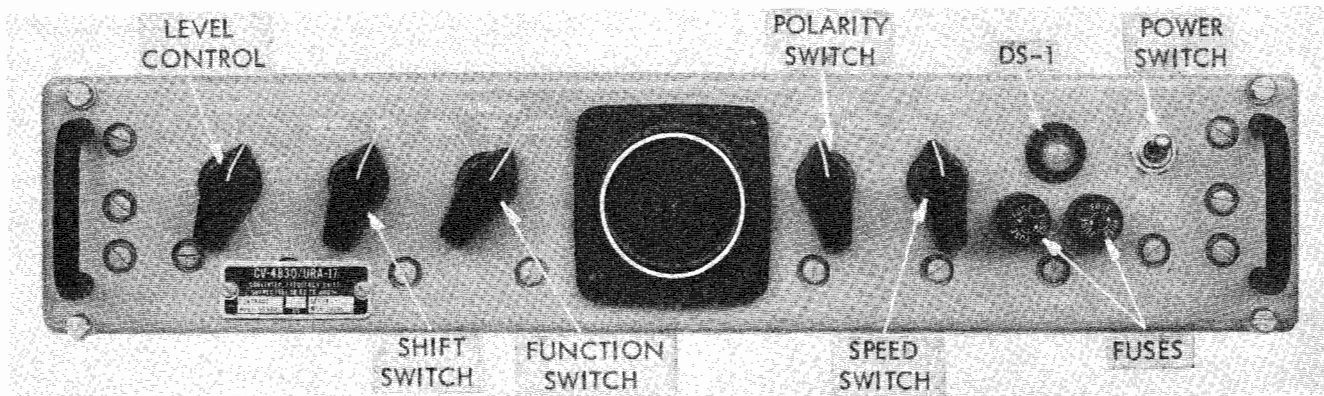

Figure 3-1. Frequency Shift Converter CV-483D/URA-17,
b. DESCRIPTION OF CONTROLS. - All controls normally used during operation are located on the front panels of the two identical converters (figure 3-1). Table 3-1 lists all operator's controls by name and function. Other controls are to be adjusted only by a technician.
(1) CONTROLS. - The controls used by the operator are illustrated in figure 3-1 and listed in table 3-1.